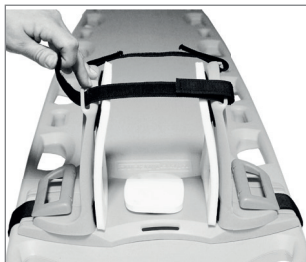

Figure 3
5. Attach both narrow restraint straps to the restraint frame. Centre the straps above the chin and forehead of the patient (Figure 3).